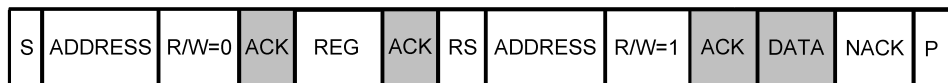

Figure 3. Master/Slave Serial Communication (Host to LM8330)
The LM8330 will only be driven in slave mode. The maximum communication speed supported is Fast Mode (FS) which is 400 kHz. Figure 3 shows a typical 7-bit address Read cycle initiated by the host.
All actions associated with the non-shaded boxes in Figure 3 are controlled from the master (host) device.
All actions associated with the shaded boxes in Figure 3 are controlled from the slave (LM8330) device.
A typical read-access sequence to the LM8330 starts with the I²C-compatible ACCESS.bus address, followed by the REG write of the register to access (see Figure 3). After a REPEATED START condition the host reads/writes a data byte from/to this address location. The LM8330 automatically increments the address pointer by one until a STOP condition is received. The LM8330 always uses auto increments unless otherwise noted. Please refer to Table 2 and Table 3 for the typical ACCESS.bus flow of reading and writing multiple data bytes.